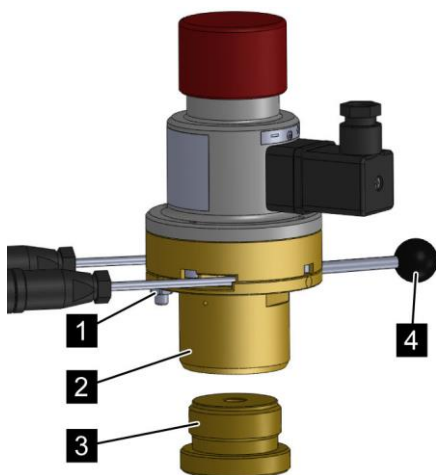

Fig. 89: Release device with mechanical blocking
3. ➤ Unscrew the hex nut (Fig. 89/1).
4. ➤ Switch the hand lever (Fig. 89/4) to the "ready for operation" position.
5. ➤ Tighten the hex nut (Fig. 89/1) with $10 \pm 2 \text{ Nm}$ ($7.38 \pm 1.48 \text{ ft-lb}$).
7. ➤ Activate the release device (Fig. 89/2) with 24 V DC.
10. ➤ Screw the screw reset tool (Fig. 89/3) onto the electrical release device (Fig. 89/2) by hand until the stop.
11. ➤ Unscrew the screw reset tool (Fig. 89/3) and remove it.
12. ➤ Unscrew the hex nut (Fig. 89/1).
13. ➤ Switch the hand lever (Fig. 89/4) to the "isolated" position.
14. ➤ Tighten the hex nut (Fig. 89/1) with 10 ± 2 Nm (7.38 ± 1.48 ft-lb).
15. ➤ Activate the release device (Fig. 89/3) with 24 V DC.
18. ➤ Unscrew the hex nut (Fig. 89/1).
19. ➤ Switch the hand lever (Fig. 89/4) to the "ready for operation" position.
20. ➤ Tighten the hex nut (Fig. 89/1) with 10 ± 2 Nm (7.38 ± 1.48 ft-lb).
21. ➤ Screw the screw reset tool (Fig. 89/3) onto the electrical release device (Fig. 89/2) by hand until the stop.
22. ➤ Unscrew the screw reset tool (Fig. 89/3) and remove it.